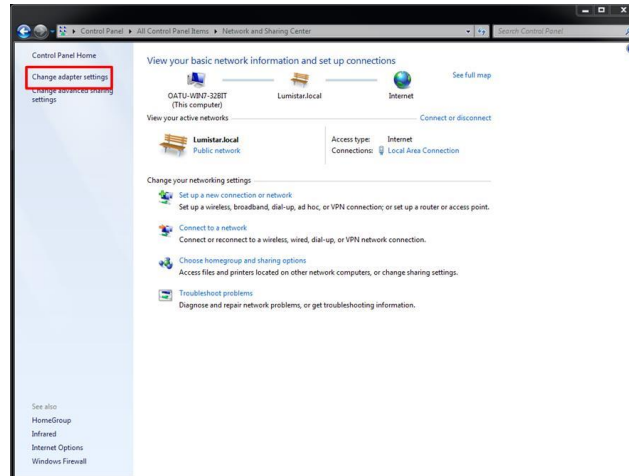

Figure 3-4 Windows Network and Sharing Page
Step 4: From Network and Sharing Center, select the "Change adapter settings" option from the left-hand menu. See Figure 3-4.